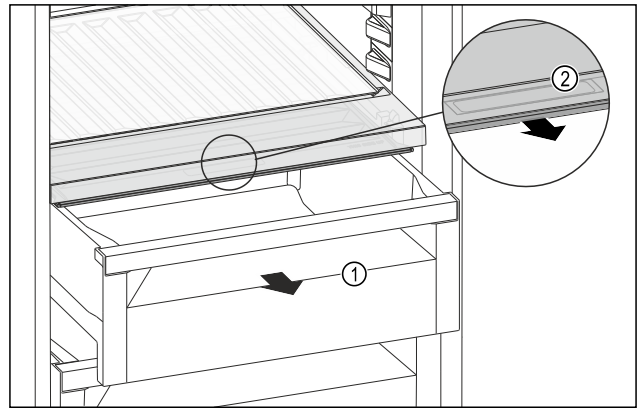

Fig. 223
- ▶ Pull out the drawer Fig. 223 (1).
- ▶ Grasp the recessed grip Fig. 223 (2) on the compartment lid and pull the compartment lid forwards at the same time.